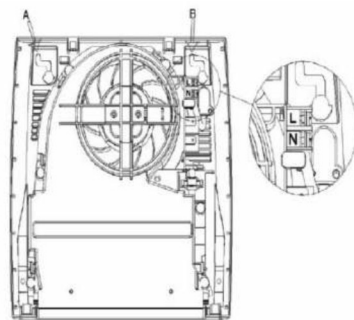

Figure 2
- Connect the Live (Red or Brown) cable to the terminal marked "L" and the Neutral (Blue or Black) cable to the terminal marked "N", see Figure 2. Ensure that there are no strands of cable left protruding from the terminal blocks. As the downflow heater is a double insulated appliance the Earth cable should not be connected and if present should be terminated in a connector and wrapped in electrical tape to prevent nuisance tripping.